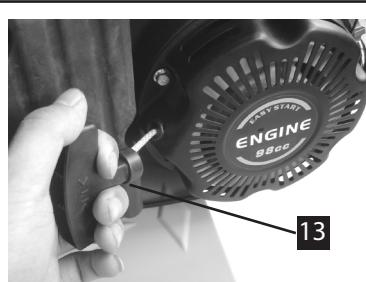

fig.14
- 4) Pull the starting handle slowly until you feel the resistance, and then pull it out suddenly and quickly. (Fig.14)